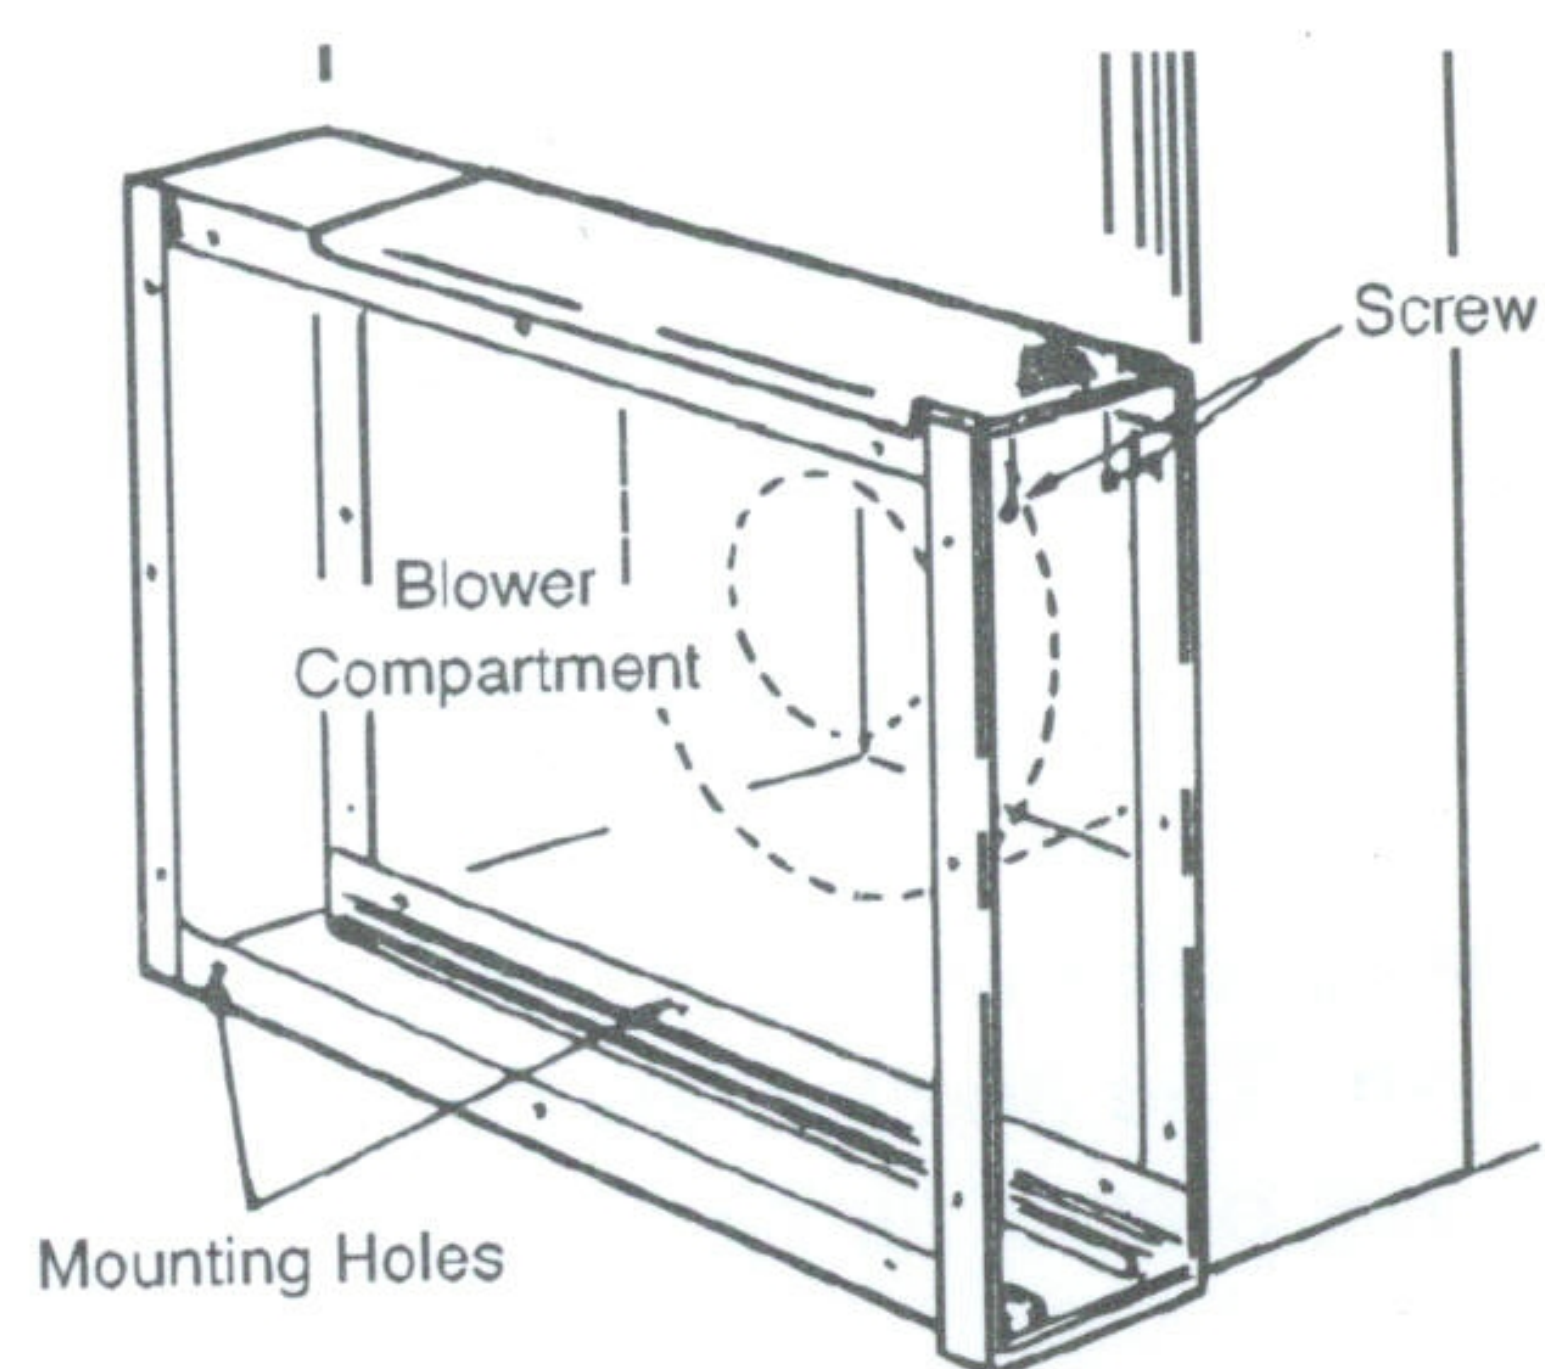

Figure 4
7. Mounting holes are provided for simple connection to duct work. The .140" holes are sized for #8 sheet metal screws, or $\frac{1}{8}$ " rivets. If the adjoining duct work is flanged, install the screws so that the screw heads are inside the cabinet. This will prevent damage to the filter cartridge during removal and installation (Figure 4).